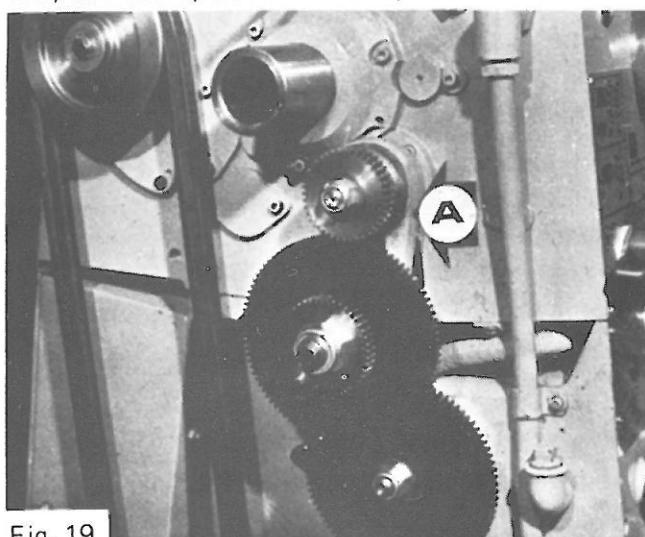

Fig. 19
Drive from headstock to gearbox is transmitted through a gear train enclosed by the headstock endguard. Intermediate gears are carried on the adjustable swing-frame (A) shown in Fig. 19.